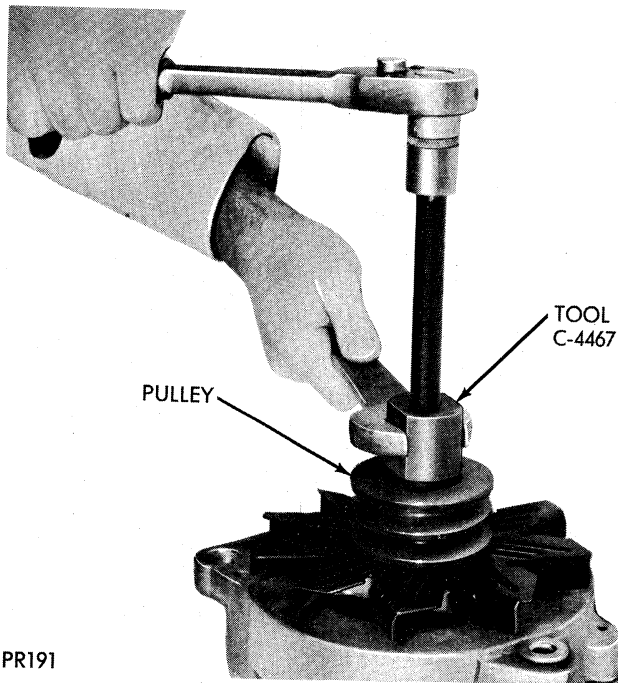

Fig. 53—Removing Pulley
- (3) While holding base of tool, turn bolt clockwise until pulley is free of shaft (Figure 53).